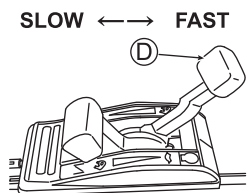

Fig. 19
5. Adjust the mowing speed with the gearshift lever (D). (See Fig. 19)